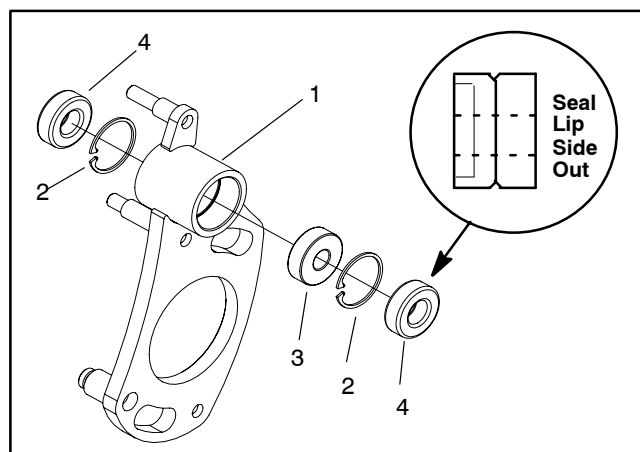

Figure 14
3. Replace bearings in **both** side plate assemblies (Figures 14 and 15):
E. Press new seals into both sides of bearing. **Note:** Seals are a two piece design. Seals should be installed so the lip side of the seal assembly is facing out (see inset in Figure 14).